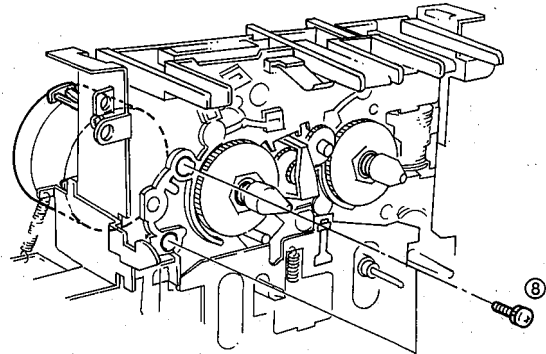

Fig. 8
a. Remove 2 screws (⑧) in fig. 8 and then remove the motor.